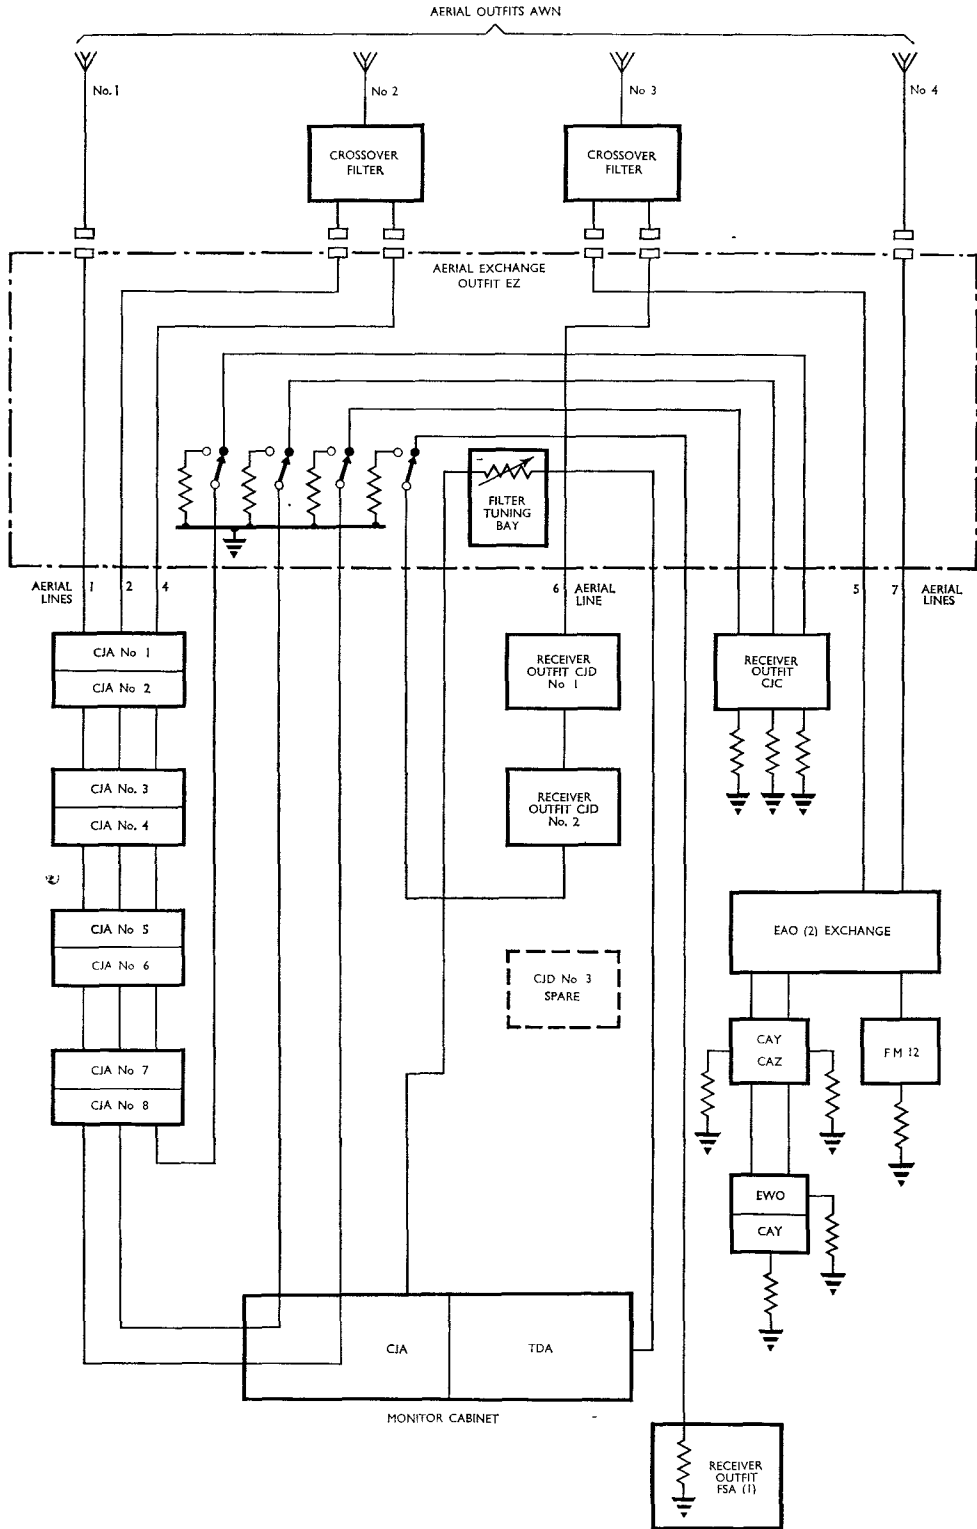

FIG. 1. I.C.S. LF - HF RECEIVER AERIAL DISTRIBUTION BLOCK DIAGRAM
e. The reception system is best described in diagrammatic form by Figs. 1, 2 and 3. The *Leander* layout has been used for simplicity; however, the same principles apply to any I.C.S. ship.
3. **Common Aerial Outfits EAO Series.** Provision of aerial lines to miscellaneous services including Receiver Outfits CAY and CAZ and a sense aerial to MF-DF FM12 is accomplished via units of the older common Aerial Working Outfit EAL. These units are grouped together as required to distribute two lines from the EZ exchange and form an Outfit EAO(1), (2) or (3).
4. Figure 1 of the reception systems illustrate how EZ and EAO are linked into one system in the *Leander* layout.